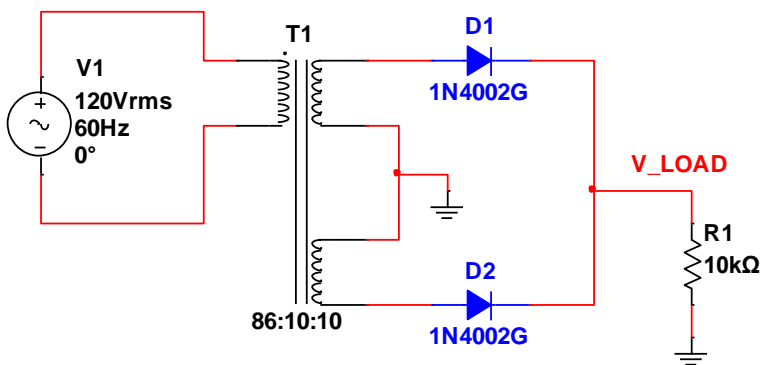

Fig. 1: Schematic of full-wave rectifier.
• TASK 1: Use Multisim to draw the circuit shown in Fig. 1.
- Multisim does not have an easy-to-use transformer with center tap. Instead, we will use a transformer with one primary and two secondary coils, as shown in Fig. 1.